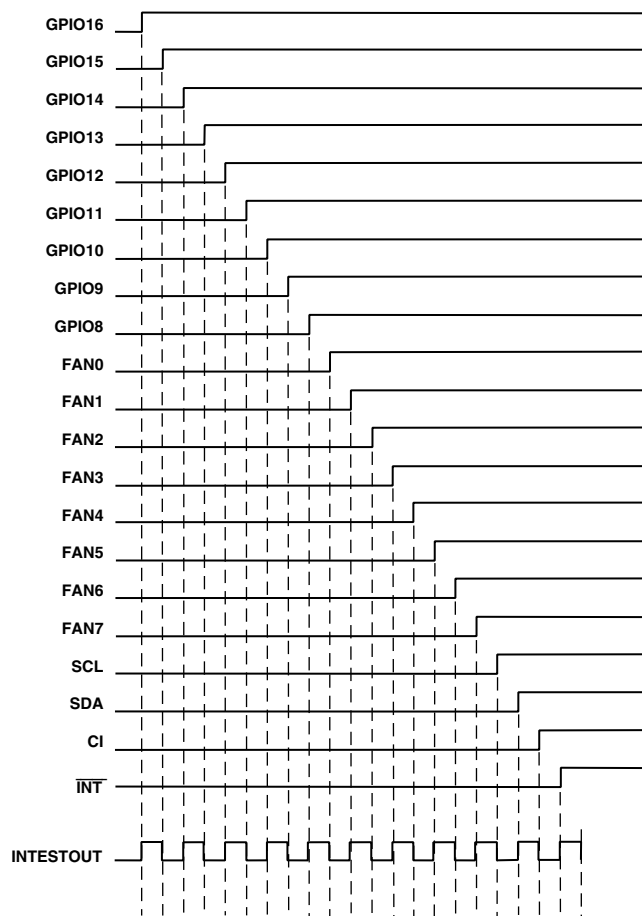

Figure 26. NAND Tree Test Taking Inputs High In Turn
1. Start with all inputs low and take them high in turn, starting with the input nearest to NTEST_OUT (GPIO16/THERM) and working back up the tree to the input furthest from NTESTOUT (INT). This should give the characteristic output pattern shown in Figure 26, with NTESTOUT toggling each time an input is taken high.